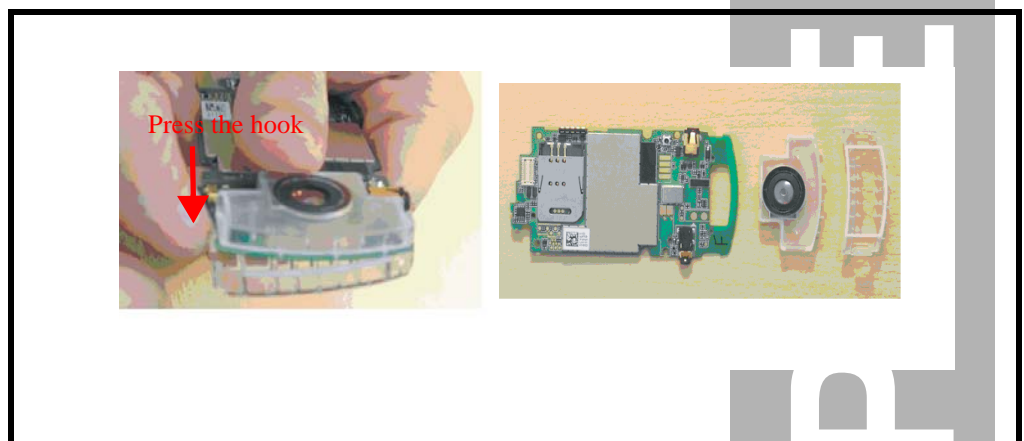

Figure 19. Removing the Speaker Box
2. Remove the Speaker Box from the Main PCBA as shown in Figure 19.